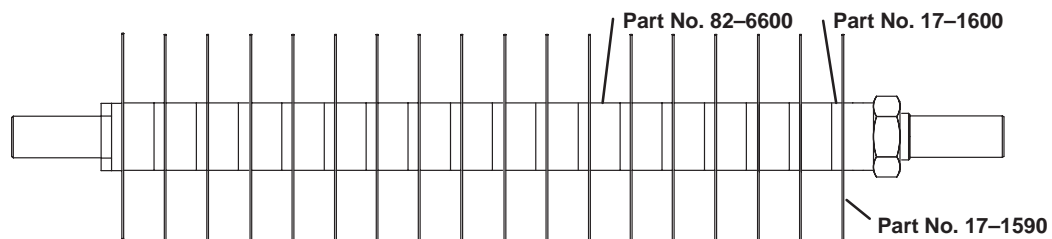

Figure 17
1" spacing, Kit Part No. 82-7001 – Includes (16) 1/4" Thick Spacers (part no.17-1600) (Fig. 17).